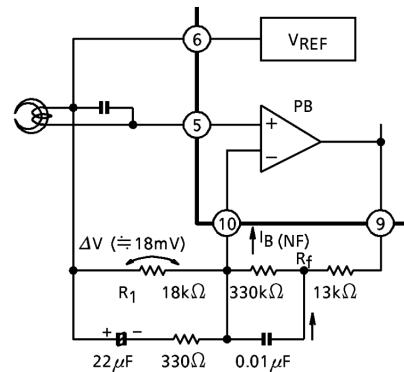

Fig.1 DC output voltage of playback amplifier.
In case that  $\beta$  of transistor is assumed 100,  $I_{B(NF)}$  is flowed 0.2 $\mu$ A in Fig.1. And output voltage of playback amplifier (pin (8),(9)) in Fig.1 is